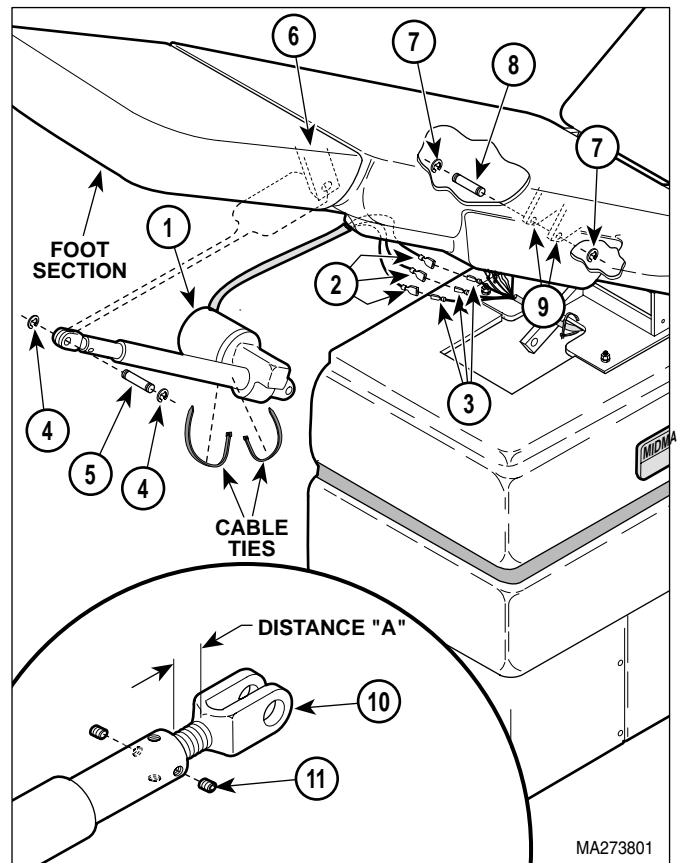

Figure 4-21. Foot Actuator Removal / Installation
- (2) Unplug power cord from wall outlet.
- (3) Cut two cable ties securing wires / wire harnesses to motor of foot actuator assembly (1, Figure 4-21).
- (4) Tag and disconnect three foot actuator wires (2) from three wires (3).